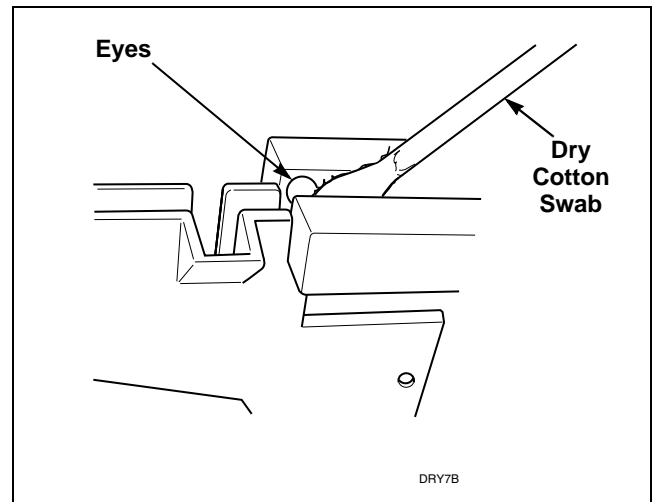

Figure 61
- j. Check coin drop sensor for dust or dirt on eyes. Wipe eyes with dry cotton swab. Refer to *Figure 61*.